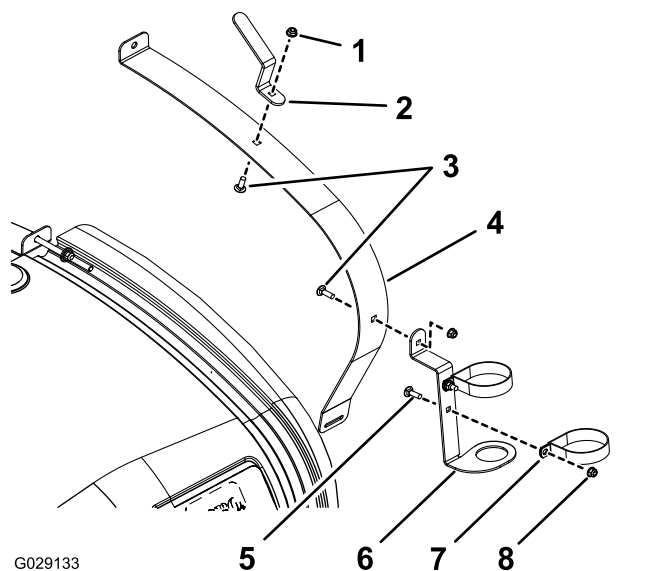

Figure 1
- For the Multi Pro 1750 and Multi Pro 5800, loosen the front, right strap (Figure 1).
2. Install the R-Clamps, spray-gun bracket, and hose hook as shown in Figure 1 or Figure 2 using a carriage bolt, flat washer, and flange-head nut.